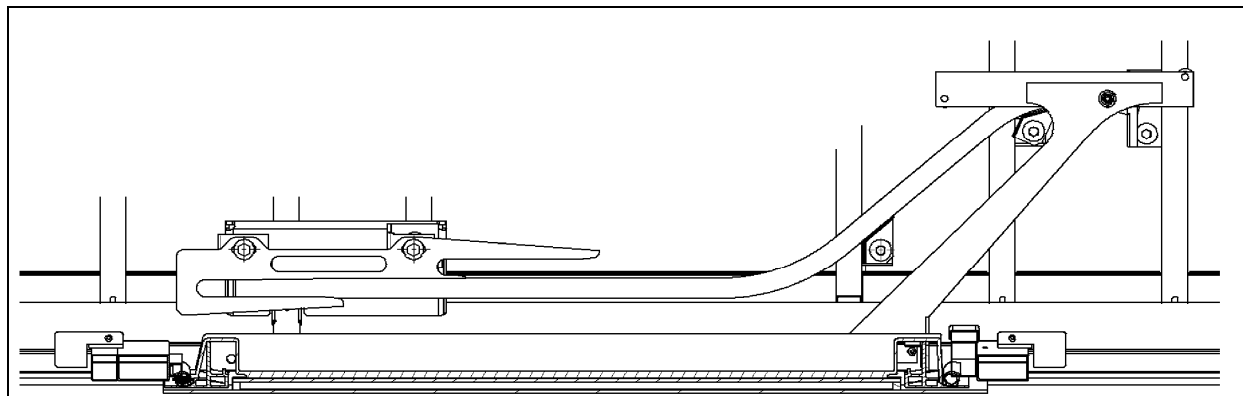

FIGURE 53: WCL UPPER ARM AND RAIL
10. Install and adjust strikers. Torque to 60 Lb-ft (Refer to figure 53).